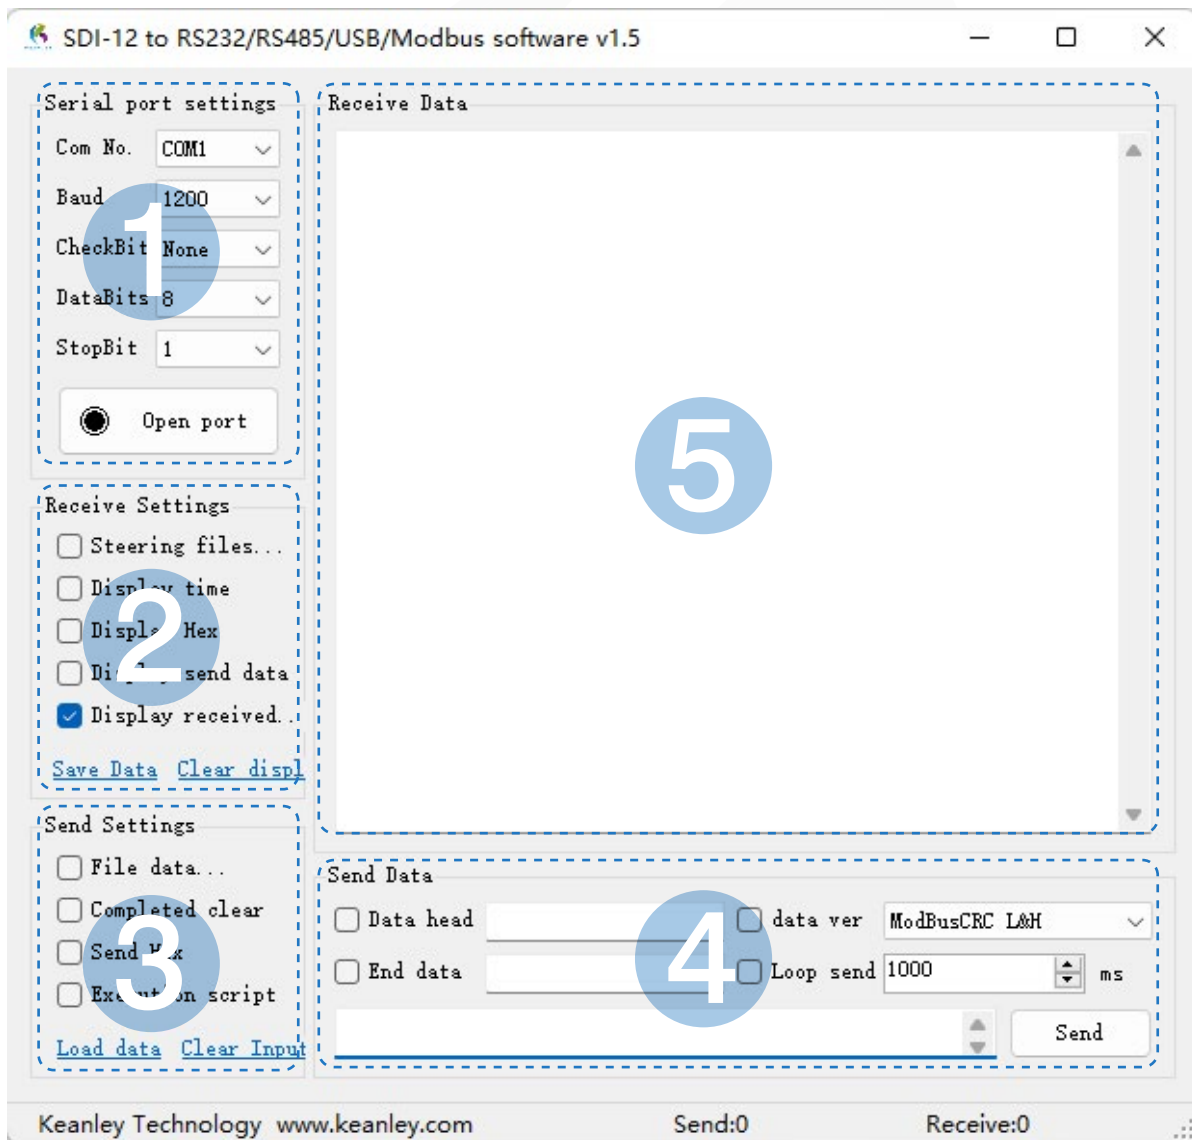

Figure 3. Software initial interface
■ Double click to open the downloaded file “SDI-12 interface conversion software.exe” (Using RS232 interface by default) as shown in Figure 3 below.
As shown in Figure 3, the interface conversion software is divided into five regions.